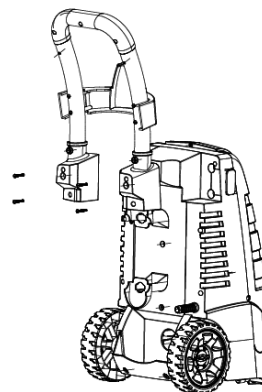

Fig.3
3. ASSEMBLING UPPER HANDLE ON THE WASHER BODY(Fig3)